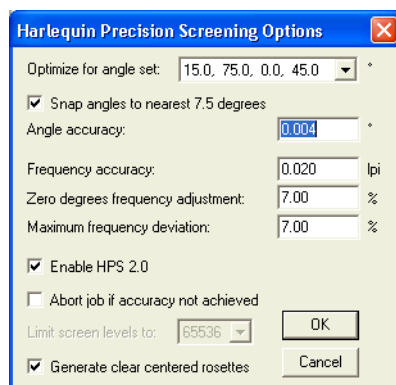

Figure 6.6 Harlequin Precision Screening Options dialog box
- When using HPS, the RIP produces the number of gray levels required to attain the specified accuracy of screening, as set in the HPS Options dialog box, shown in Figure 6.6, page 166.